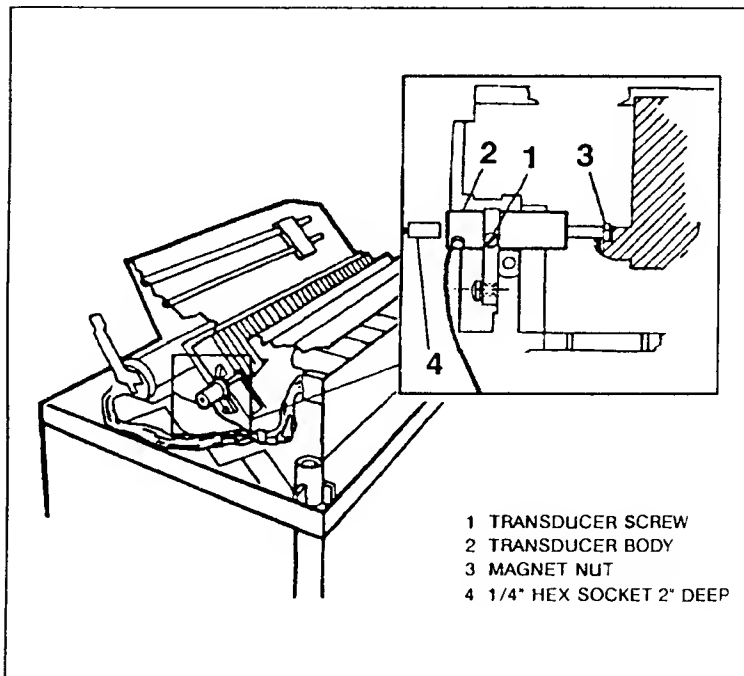

Figure 6-15. Velocity Transducer
- c. Remove the velocity transducer by loosening the screw in the transducer (see Figure 6-15).
- e. To disconnect the transducer magnet from the printbar assembly, loosen the magnet nut using a 1/4" hex socket - 2" deep (see Figure 6-15).
- f. Loosen the velocity transducer magnet from the printbar using a 1/4" hex socket - 2" deep (see Figure 6-15, item 4) and push the magnet as far as it will go into the transducer body (this is to protect the magnet from possible breakage).